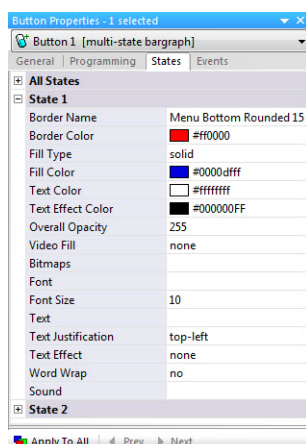

FIG. 131 Button Properties
2. In *Button States*, select *MXA-MPL* as the video fill (FIG. 131).